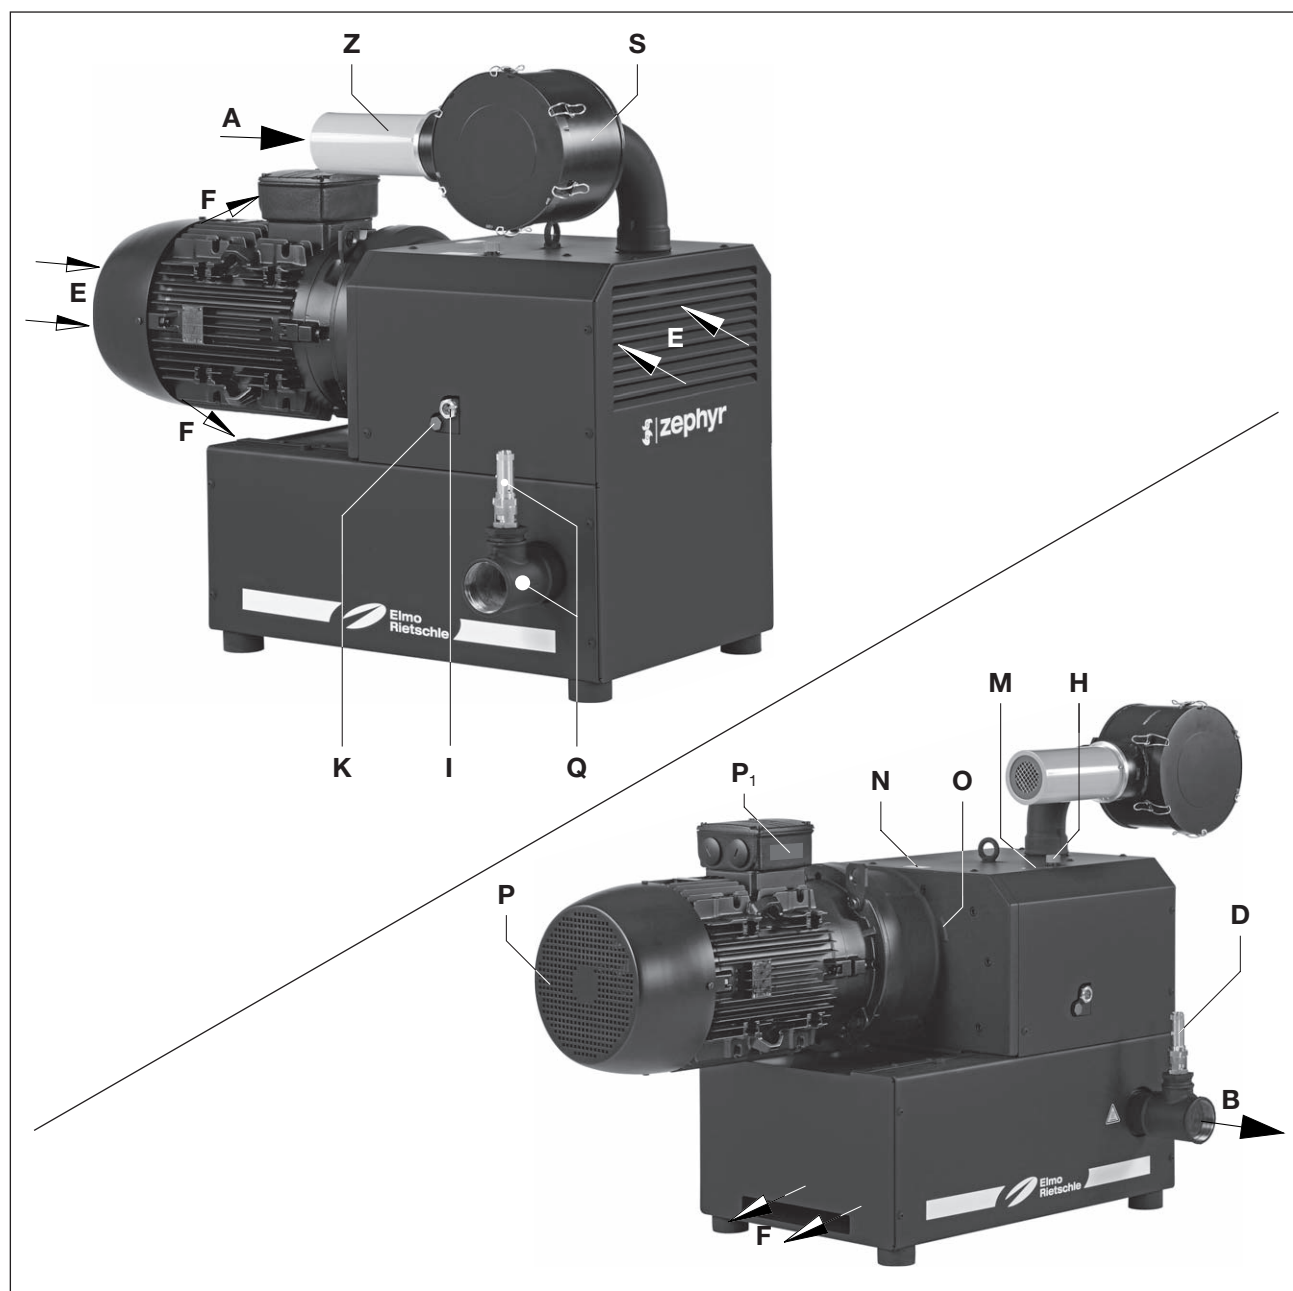

Fig. 2 Compressor C-DLR 401 and C-DLR 501
The C-DLR 401 and C-DLR 501 are encapsulated by an insulating hood. In order to dissipate compression heat, the cooling air is sucked through between the machine and the hood using drum fan that sucks in the fresh cooling air (Fig. 2/E) and discharges the heated air out of the cooling air outlet (Fig. 2/F).
The C-DLR 401 and C-DLR 501 are driven by standard flanged three phase motors via a coupling. To protect against overload a safety valve (Fig. 2/D) is fitted as standard.
This contact free running claw compressors C-DLR are suitable for creating excess pressure between 0 and the maximum limit (in bars) given on the data plate Fig. 2/N). Constant operation is permissible.
The oil filling point (Fig. 2/H), oil sight glass (Fig. 2/I) and the oil outlets (Fig. 2/K) must be easily accessible. The cooling air inlets (Fig. 2/E) and the cooling air outlets (Fig. 2/F) must be at least 30 cm away from adjacent walls. Cooling air coming out must not be sucked in again. For maintenance work there must be a minimum of 40 cm in front of the inlet filter (Fig. 2/S) and the inlet silencer (Fig. 2/Z).
- a) Pressure connection at (Fig. 2/B).
As a protection against overload a safety valve (Fig. 2/D) is installed as standard.
- a) Fill the lubricating oil (for suitable types see "Maintenance") for the gear wheels and oil filling point (Fig. 2/H) up to the middle of the sight glasses (Fig. 2/I).
- a) The motor's electrical data is given on the data plate (Fig. 2/N) or on the motor data plate (Fig. 2/P₁). The motors comply with DIN EN 60034 and are in protection class IP55 and insulation class F. The appropriate connection diagram is located in the motor's terminal box (not for the plug connection version). The motor data must be compared with the data of the existing mains network (current type, voltage, network frequency, permitted current value).
When the machine is at operating temperature the surface temperatures on the components (Fig. 2/ Q) may go above 70°C. You must avoid touching the hot surfaces (marked with warning plates).
- ▷ The intended direction of rotation of the drive shaft is shown by the rotary direction arrow (Fig. 2/O).